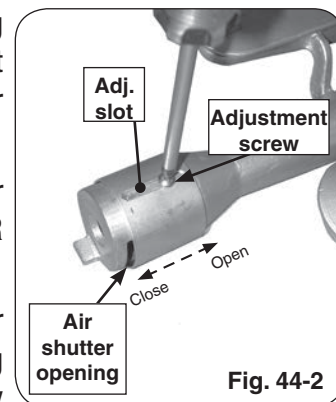

Fig. 44-2
3. Adjust the air shutter opening by loosening the adjustment screw with a screwdriver, then sliding the air shutter backward or forward to open or close the air shutter opening (see Fig. 44-2).